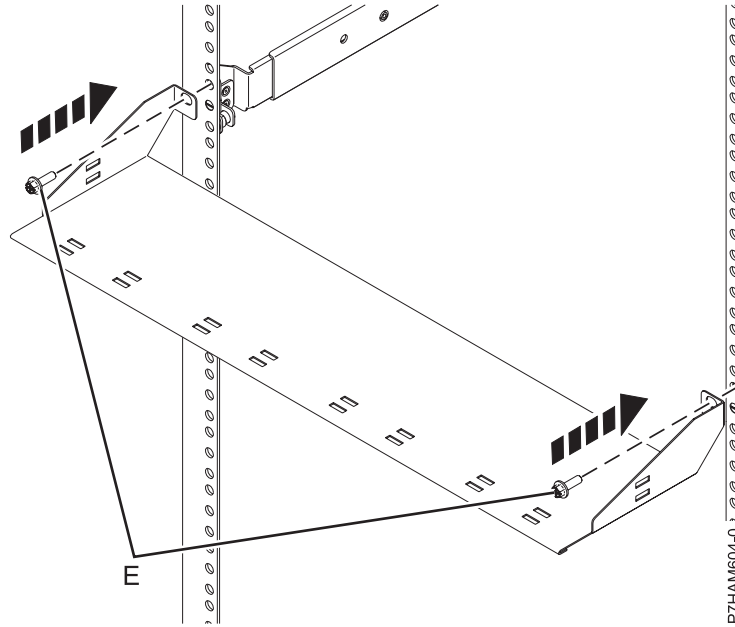

Figure 11. Mounting the cable management bracket
- g. At the rear of the rack, hold the cable management bracket up to the rear rack flanges, aligning the bracket mounting holes to the top holes of the EIA that contains the enclosure, as shown in Figure 11 on page 12. Apply the M5 screws (E) through the mounting holes of the bracket and into the top EIA holes on the rack flanges.
**To provide for the secure attachment of the rails, the M5 screws (E) must be applied at the specified EIA locations even if you do not mount the cable management bracket.**